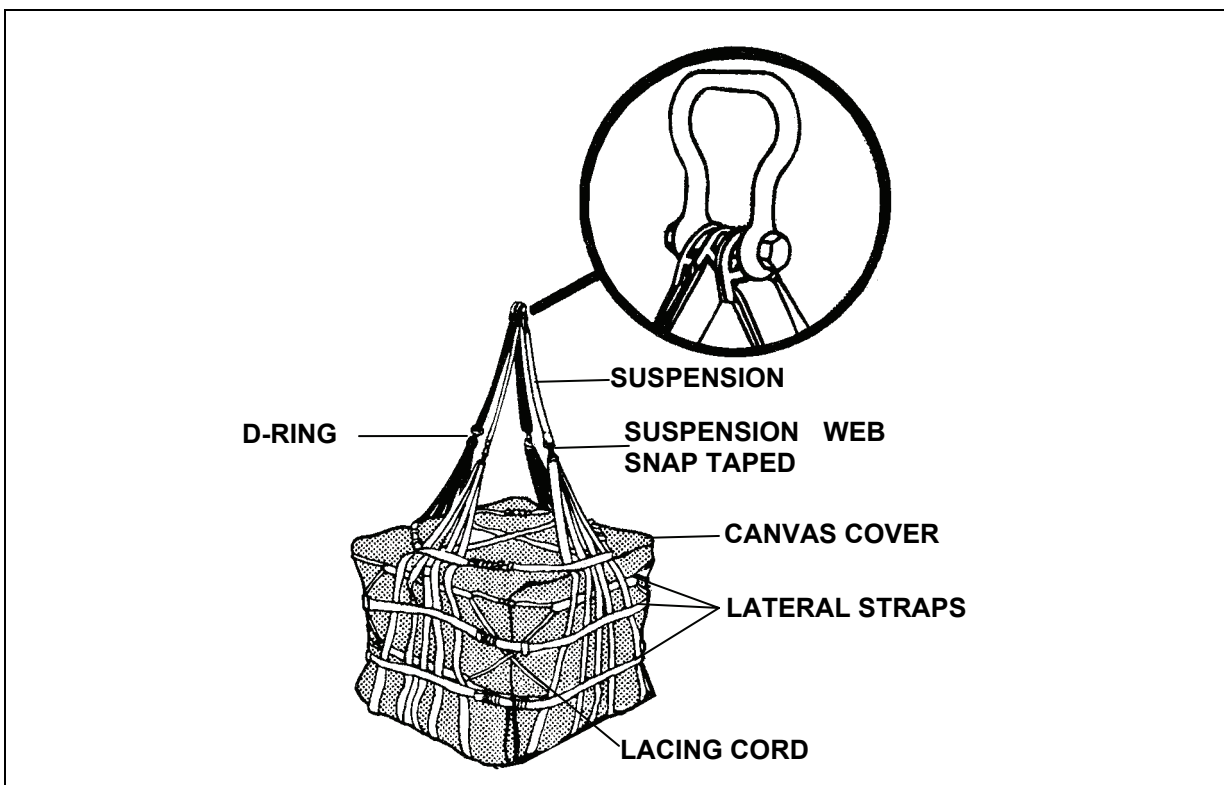

Figure 8-6. Suspension Webs and Medium Suspension Clevis
- **Attaching the Suspension Clevis.** Attach the four suspension web strap D-rings to a medium clevis in a clockwise sequence. Tape the nut with pressure-sensitive tape. Each strap can have a maximum of one quarter twist to connect to the clevis (Figure 8-6).